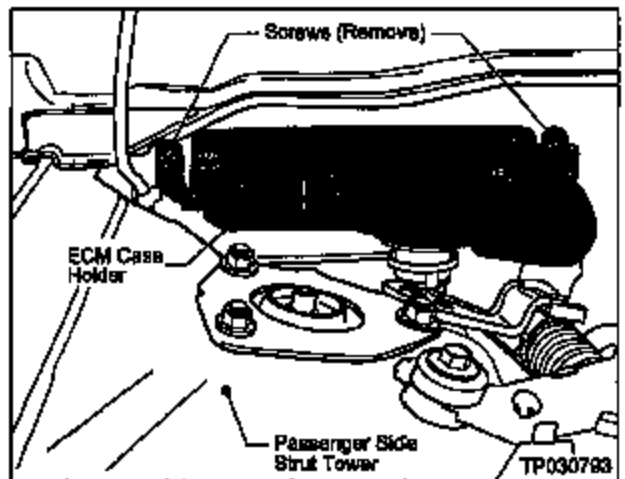

Figure 6
6. Remove two Screws that hold the ECM Case Holder to the engine room wall (see Figure 6).